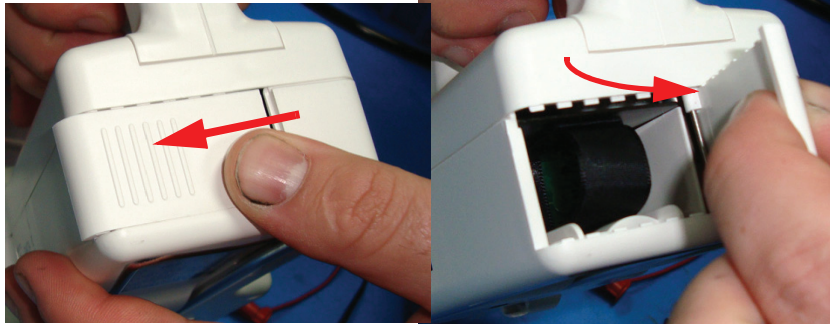

Figure 3-1 Open the Battery Compartment Door
2. Open the battery compartment by sliding the battery compartment door on the bottom of the unit to the left to unlock it. When the door is unlocked, open the door. The hinge is on the right side of the door. See Figure 3-1.